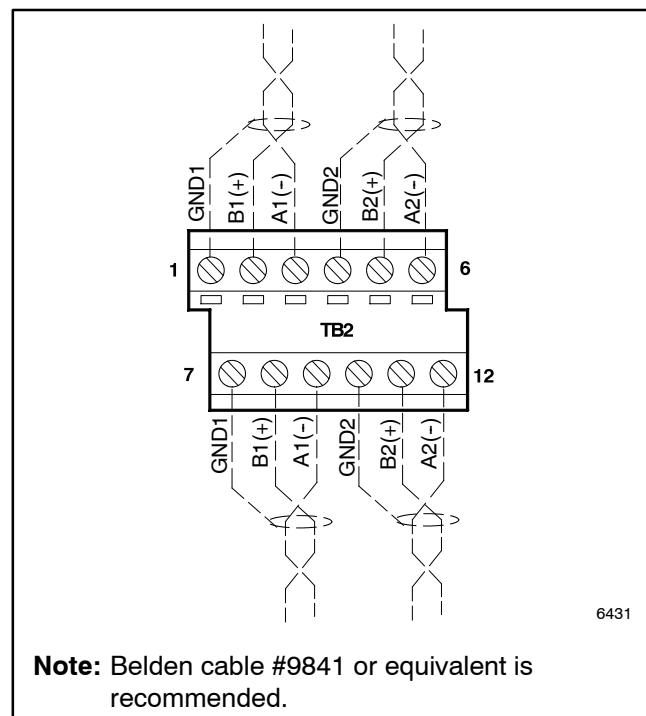

Figure 13-3 RS-485 Connections
- b. Use #12-24 AWG twisted-pair shielded cable; Belden cable #9841 or equivalent is recommended. Connect the Modbus® input and output to terminal strip TB2. See Figure 13-3. Connect A to negative (-), B to positive (+), and the shield to ground as shown in Figure 13-3.